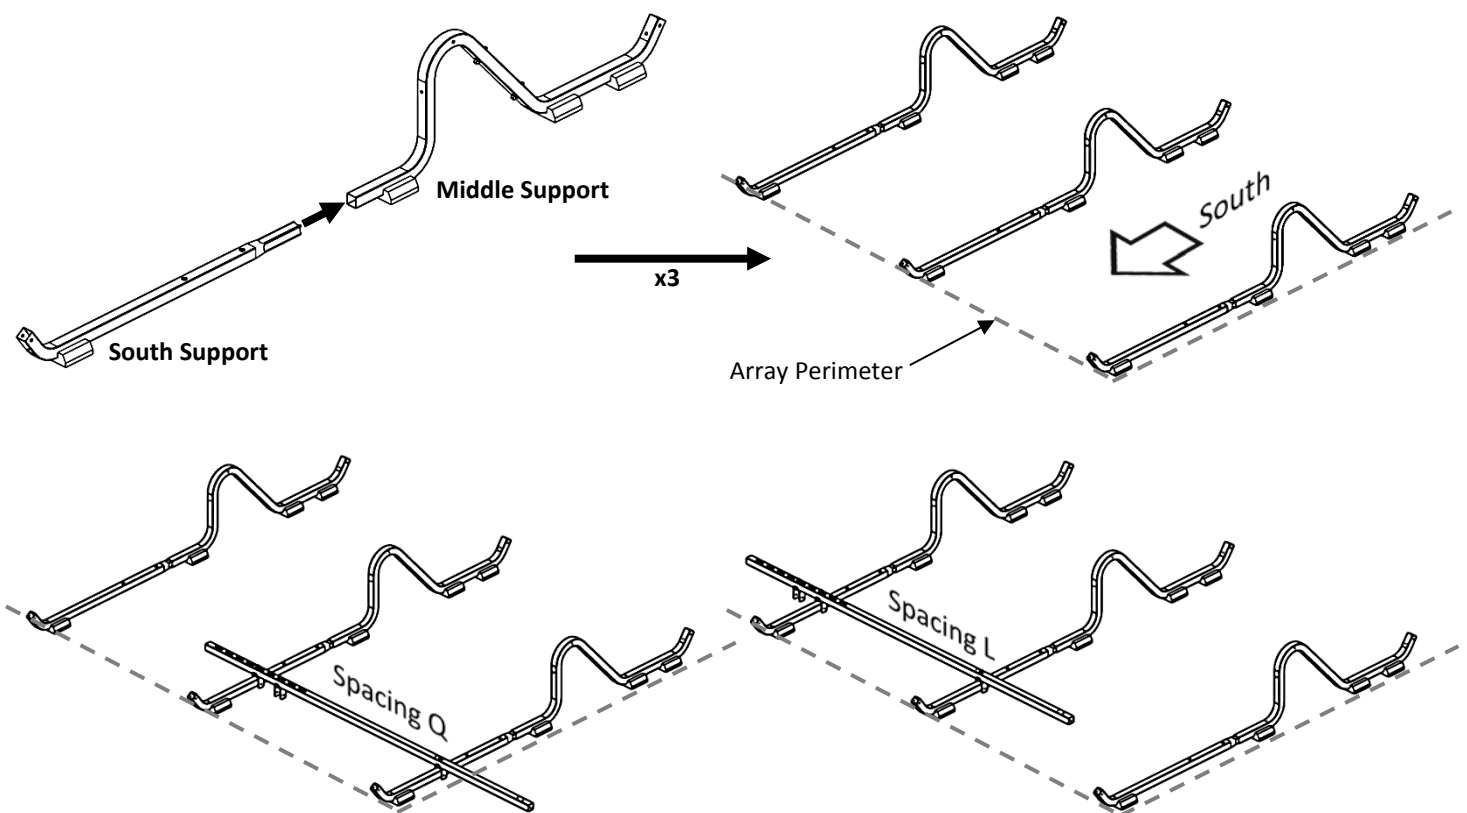

Figure 3 Starting the Array
5. Eastern most Support roof pads must be lined up with north-south snap line. Southern Support roof pad must align with East-West snap line. Leave spacer stick in place (Figure 3).